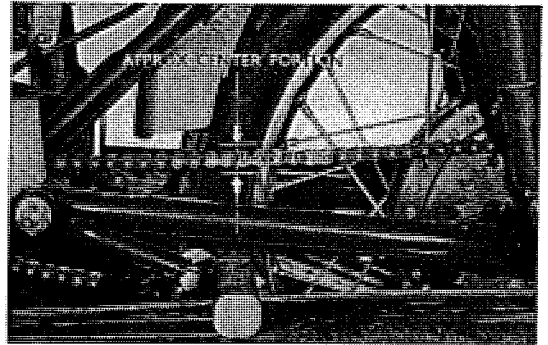

Fig. 6.30 Drive chain slack
- b. Loosen the hex-head bolt. Remove the cotter pin and loosen the rear wheel axle nut. Adjust with the drive chain adjuster so that the slack in the chain is from 10 to 20 mm (.39" to .78"). When the adjuster is turned to the right, the chain will become tight. (Refer to Fig. 6.30 and 6.31)